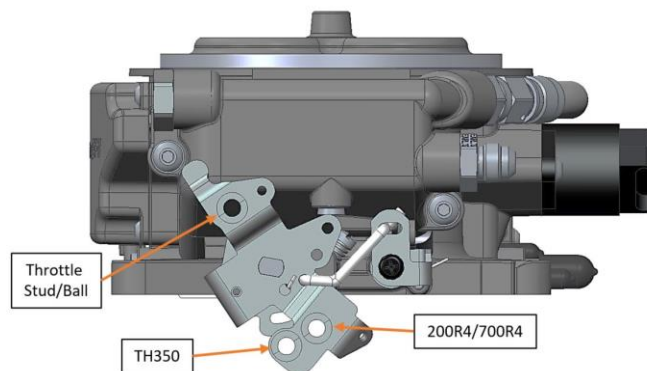

Figure 3
3. Reconnect the throttle and transmission kick-down linkage (if applicable). Be sure to check for any binding conditions and correct before proceeding. Poorly routed throttle cables & linkages can cause throttle pedal issues. See Figure 3 for correct linkage placement.